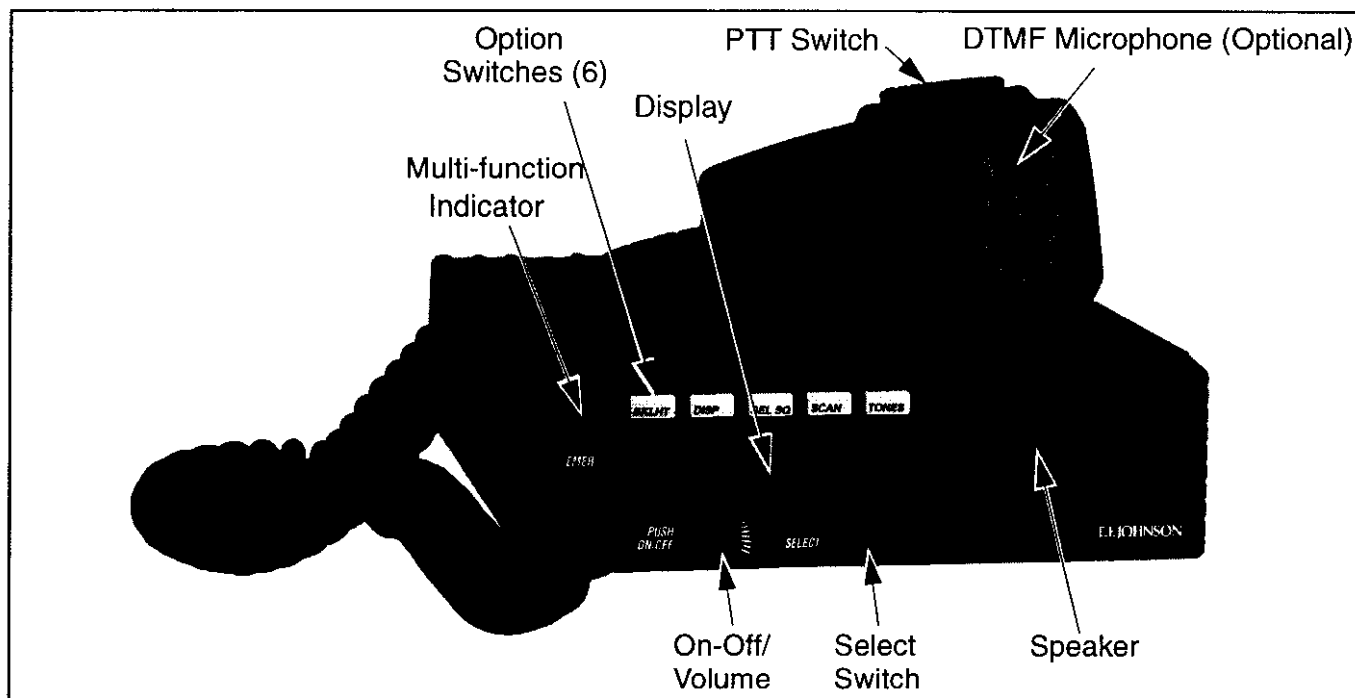

Figure 3-1 Front Panel Controls
*NOTE: The controls and indicators described in the following information are shown in Figure 3-1.*